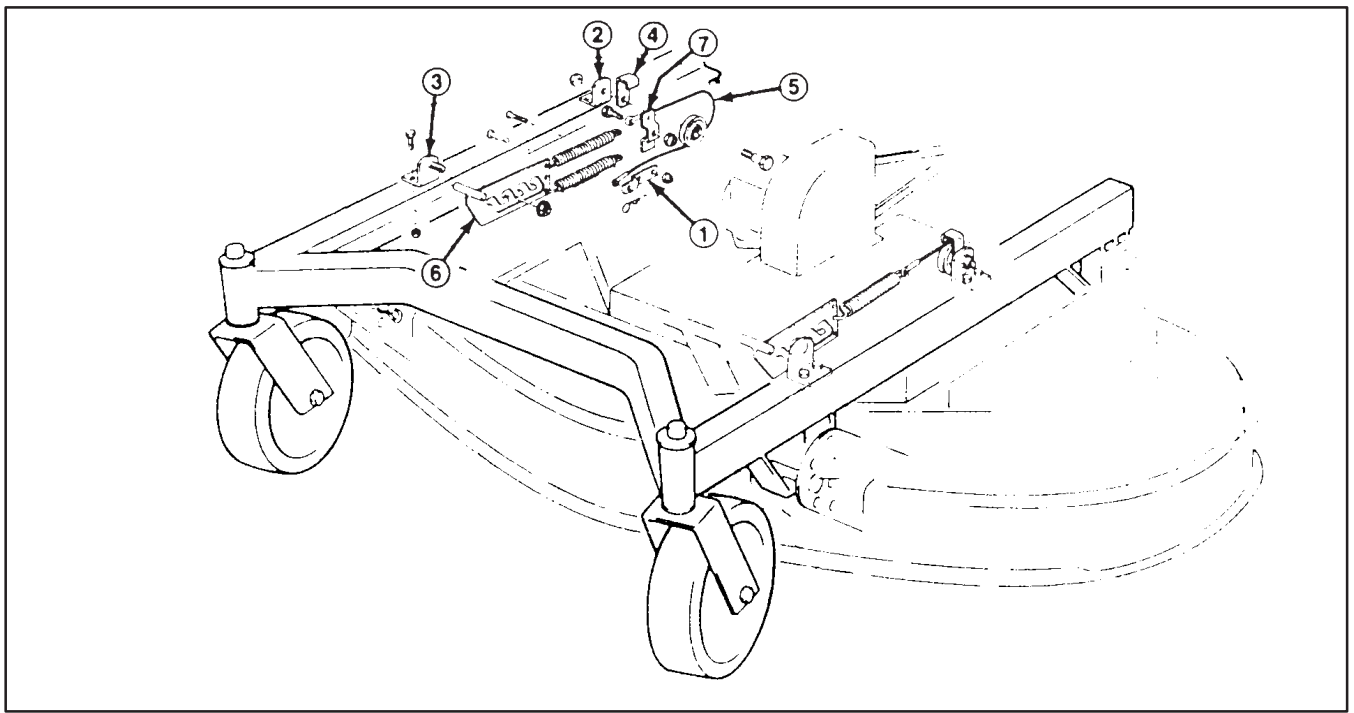

Figure 3
6. Mount a pulley bracket and control adjustment bracket to each side of carrier frame with capscrews and lock nuts, positioning them as shown in (Fig. 3).
7. Loosely secure a cable retainer and pulley assembly to each control adjustment bracket with a shoulder bolt and locknut. Route cable around each pulley assembly as shown in (Fig. 3) and tighten lock nut.
9. Hook an extension spring to the other end of cable and to tension adjustment bracket. When installing kit on a cutting unit equipped with a bagging attachment, two springs and a spring bracket must be mounted on right side as shown in (Fig. 3). Two springs and spring bracket must be mounted on left side of cutting unit when installing kit on 52" Rear Discharge Deck.